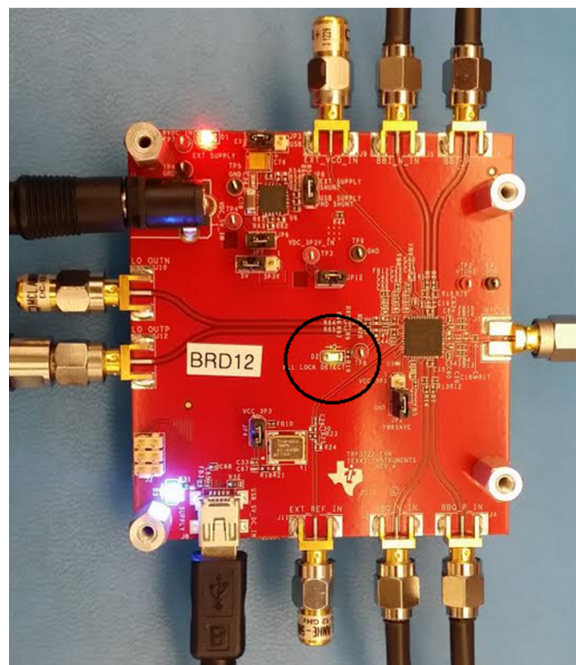

Figure 8. TRF3722 EVM
- After setting proper register settings, click the **Send All** button. When the device is programmed, the green LED (D2) should turn ON which indicates PLL is locked as shown in Figure 8.